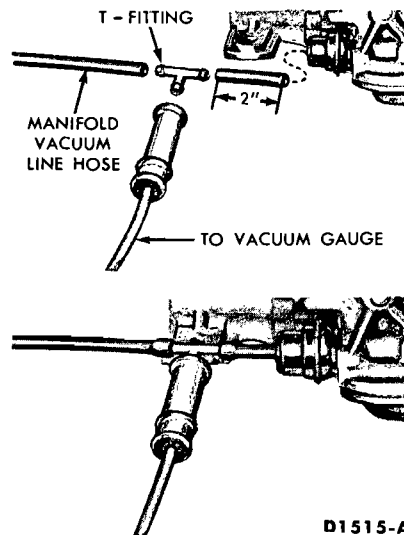

FIG. 5—Typical Vacuum Test Line Connections
1. Attach a tachometer to the engine and a vacuum gauge to the transmission vacuum line at the vacuum unit (Fig. 5).